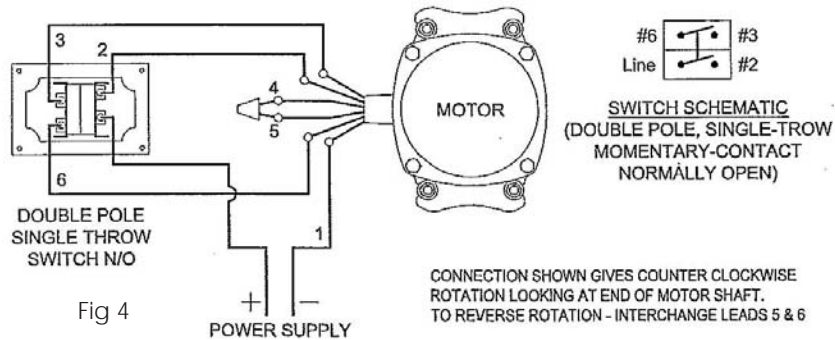

Fig 4
**Wiring Diagram 110/240 VAC Electrically Driven Reels - Fig 4**